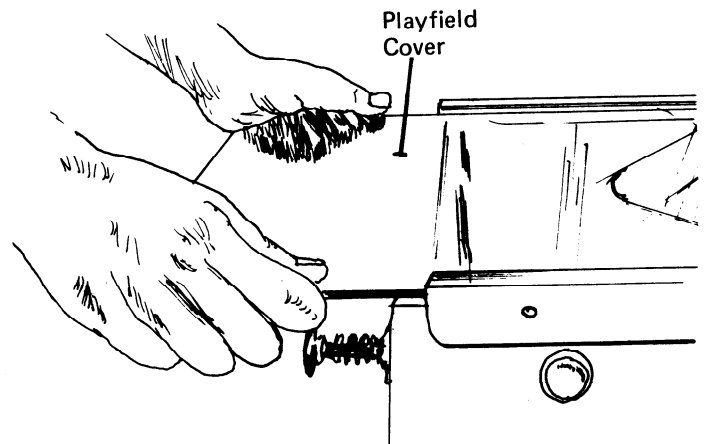

FIGURE 7
2. Slide the Playfield Cover out of the Cabinet. **CAUTION:** The Playfield cover is tempered glass and should be handled with care. Set the cover in a safe place while it is removed from the unit. (Figure 7)